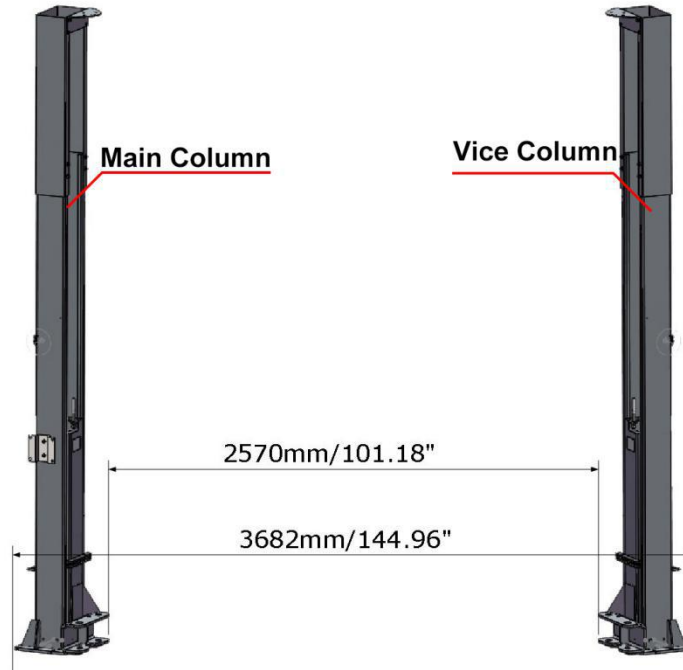

Fig 8 Asymmetric installation position columns
- 2.Asymmetric Installation (Fig 8)